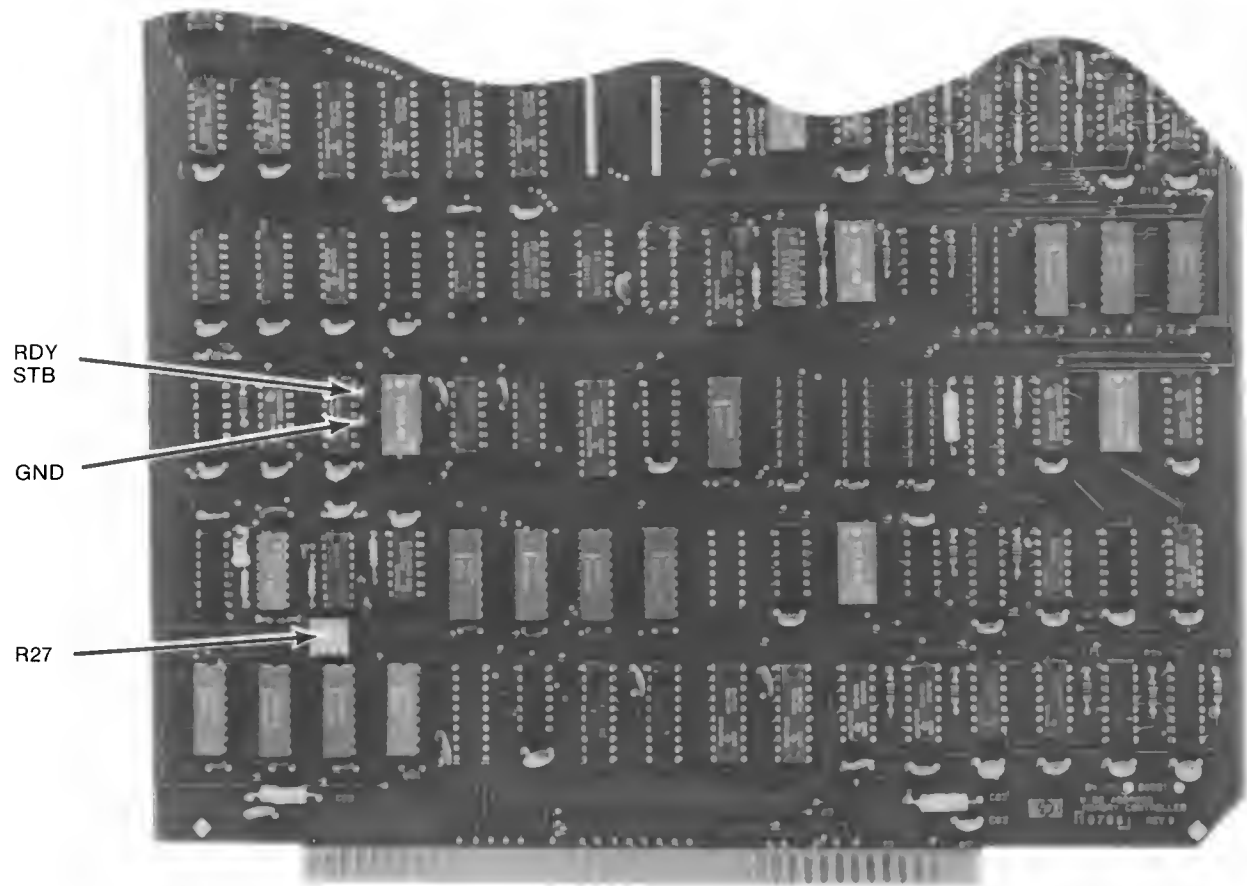
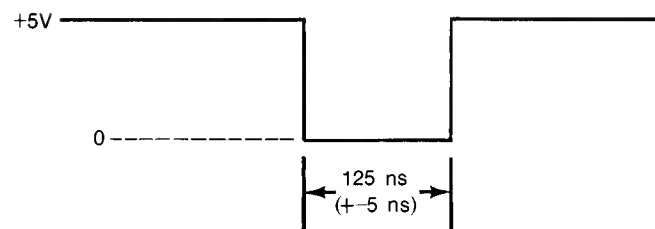

Figure 5-1. Emulation Access Timing Adjustment Test Points
Figure 5-2. RDY STB Pulse Width
- g. Refer to figure 5-1 and connect the oscilloscope probe to the RDY STB test point. A Convenient GND is located just below the RDY STB test point. This GND should be used for grounding the oscilloscope probe (the use of a spanner tip probe is recommended).
- h. Adjust R27 (see figure 5-1) for a 125 ns negative going pulse width as shown in figure 5-2. This adjustment must be within + or -5 ns.